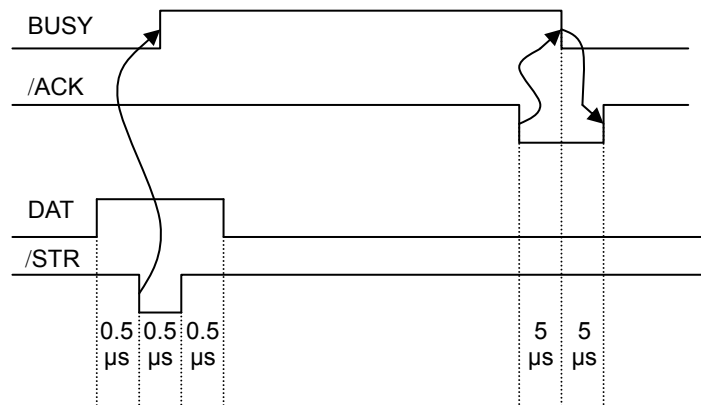

Figure 5-3 Time sequence of parallel to transmit data
(4) Time sequence of Parallel to transmit data (as shown by Figure 5-3):